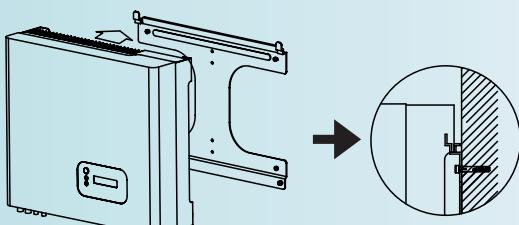

Fig. 7
- Hang the inverter and ensure that it is correctly positioned on its four mounting points (**Fig. 7**).